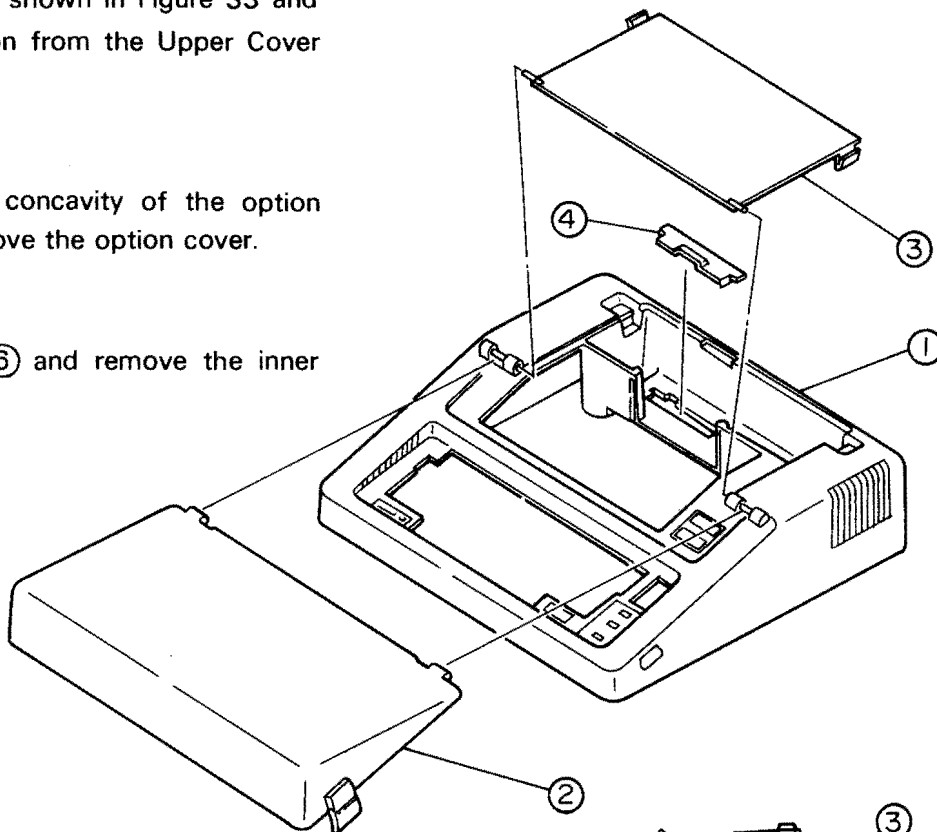

Figure 33.
1. Removal of Front Cover. Unfasten both right and left clips and open the front cover (2) slightly. Pull up and remove the front cover from the Upper Cover Unit (1).
2. Removal of Rear Cover. Open the rear cover at a 45° angle to the Upper Cover. Bend the rear cover (3) as shown in Figure 33 and remove the axis of rotation from the Upper Cover unit.
3. Removal of Option Cover. Insert a finger in to the concavity of the option cover (4), pull up, and remove the option cover.
4. Removal of Inner Cover. Loosen the two screws (6) and remove the inner cover (5).